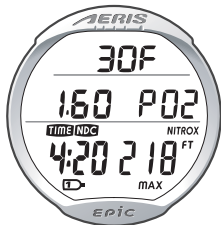

Fig. 69 - PLAN SEQUENCE
**PLAN SEQUENCE** information includes (Fig. 69):